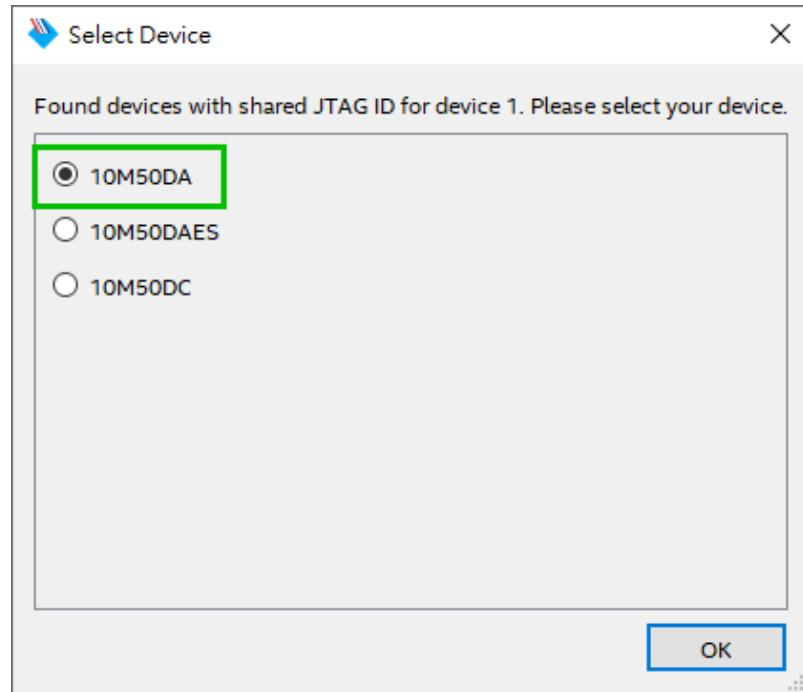

Figure 2-6 Select 10M50DA device
- Select detected device associated with the board, as circled in **Figure 2-6**.